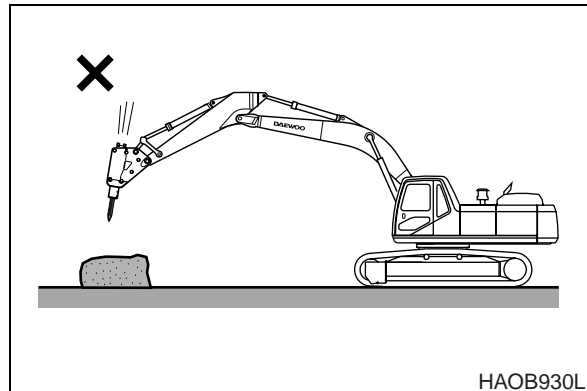

Figure 72
3. DO NOT use the breaker as a hammer. See Figure 72.